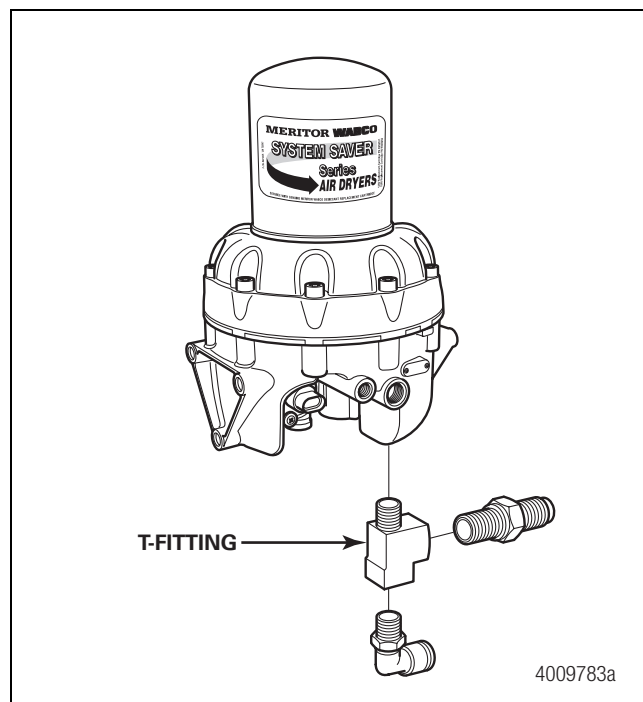

Figure 1
6. Install a T-fitting into the discharge port. Figure 1.